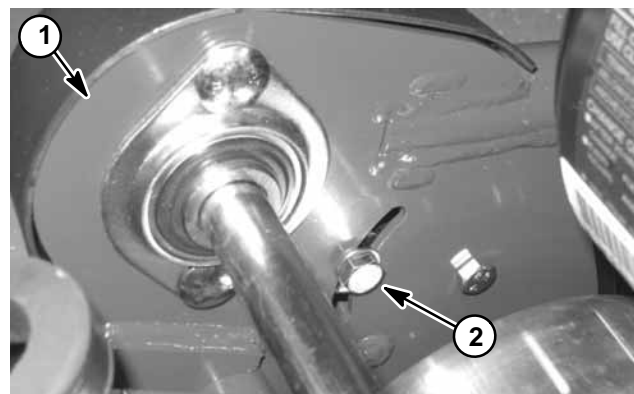
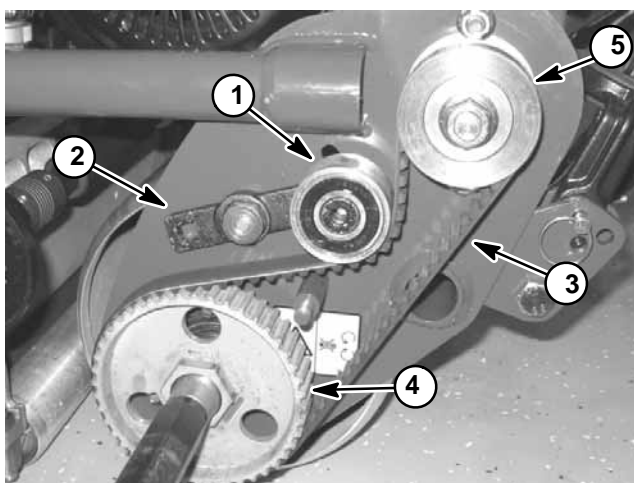

Figure 10
Figure 11
4. Loosen cap screw that secures idler bracket to frame (Fig. 10). Pivot the idler pulley away from the drive belt to loosen belt tension (Fig. 11).